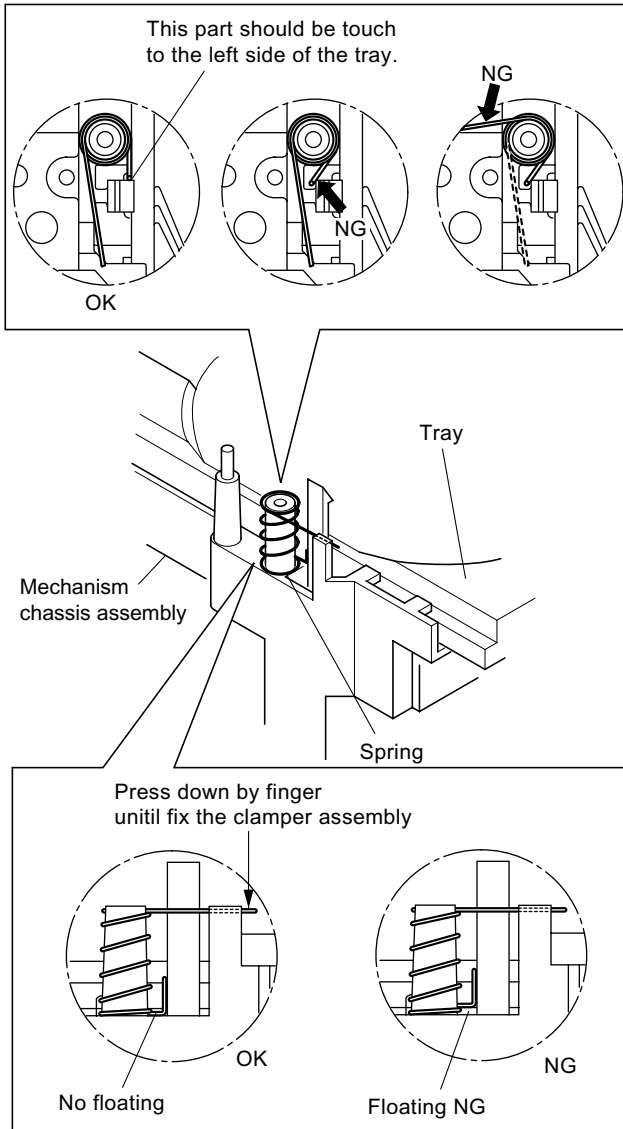

Fig. 2-1-3
2. By referring to Fig. 2-1-3, insert the spring normally and mount the clamber stay.